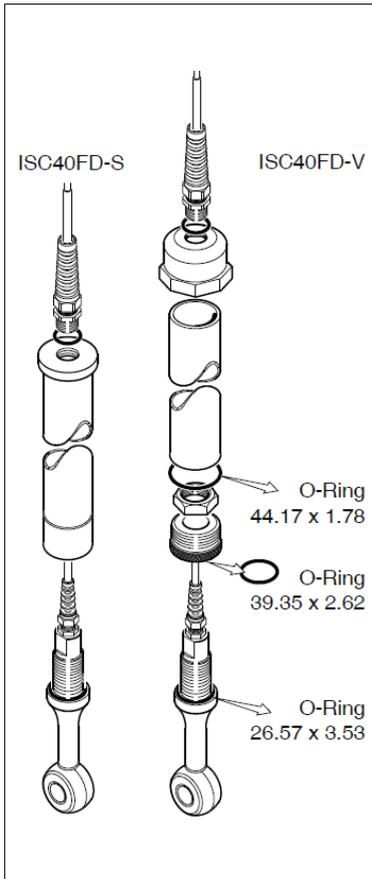

Fig 18: Installation of ISC40 sensor in immersion fitting
- The sensor has to be mounted in the immersion fitting (see Fig 18).